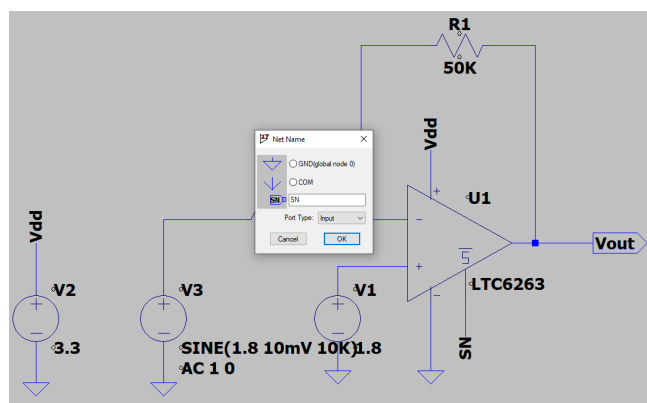

Figure 2: Adding ports to a schematic
1. Create ports for any signal that you want to access in the mixed-signal simulations as shown in Figure 2 by right clicking the netname and setting the port type. Pure digital signals normally have a "strong" direction and are thus either input or output. Analog signals are typically bi-directional, but should not be used as a driver for a digital signal (since once in the digital domain it will become a "1" or a "0").